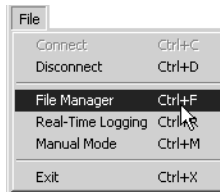

Figura 4-3. File->File Manager
- Haga clic en **File->File Manager** (Figura 4-3).